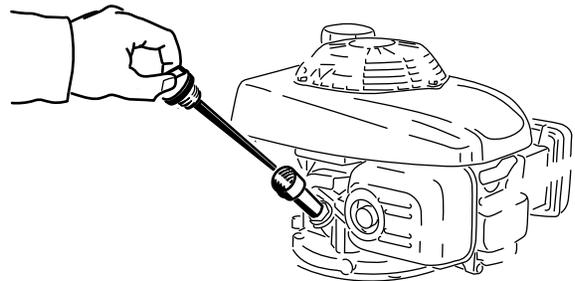

Figure 31
3. Remove the dipstick (Figure 31).